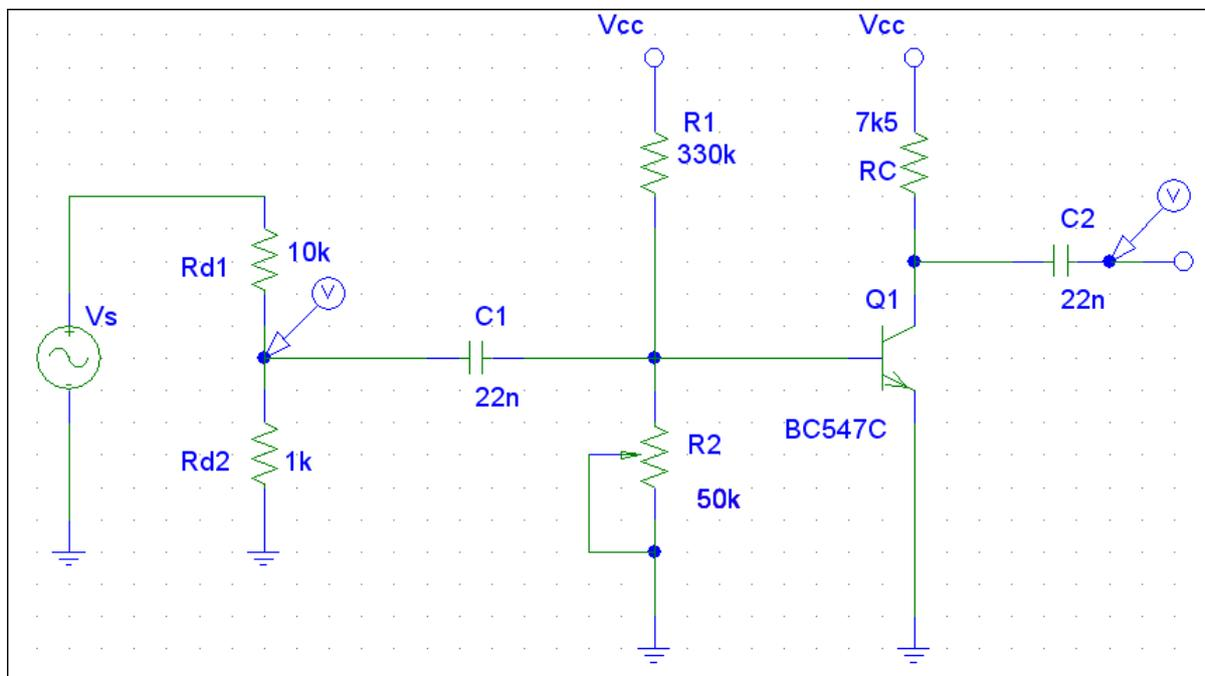

Fig. 2 Common-emitter amplifier with bipolar junction transistor
Common-emitter amplifier circuit with single bipolar junction transistor is presented in fig. 2. Resistors R_{d1} and R_{d2} work as an input voltage divider and they are not a part of the amplifier. Resistors R_C , R_1 and R_2 are used for the polarization of the transistor and for setting the point of work.
1. Solder the circuit illustrated in fig. 2.
6. Set the oscilloscope window to observe the input and output voltage V_{IN} and V_{OUT} . Set the cursors to calculate the amplification A_v of the circuit from fig. 2.